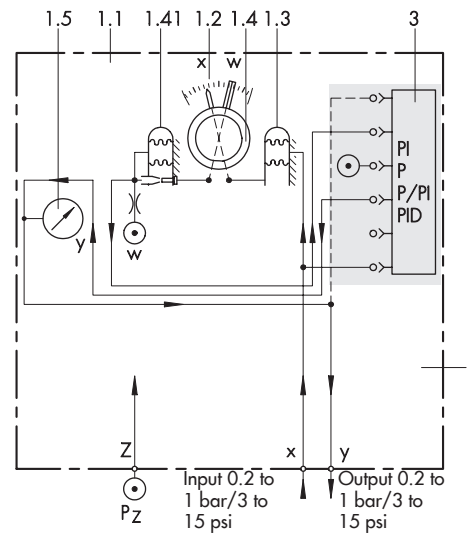
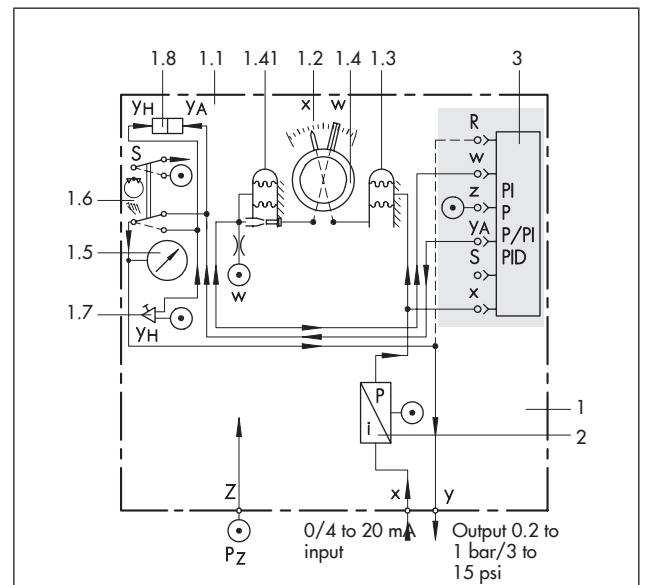
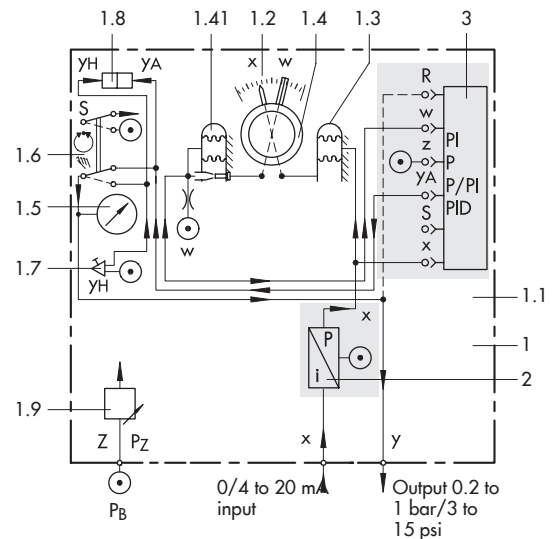

Fig. 4: Schematic drawing of fixed set point controller for pneumatic standardized signals, version with Type 3431-01 Controller Station
Fig. 7: Schematic drawing of fixed set point controller for electric standardized signals, version with Type 3431-02 Controller Station
Fig. 8: Version with supply pressure regulator (1.9)
Principle of operation (see Fig. 4 to Fig. 8)
The controller station shown in Fig. 4 (fixed set point controller with pneumatic input) includes a scale (1.2), controlled variable display (1.3), set point adjuster (1.4) and plug-in connections for a controller module (3). These pneumatic connections are self-sealing when the module is unplugged. The controlled variable signal x produces a deflection on the bellows measuring system of the controlled variable display (1.3) which is transmitted to the pointer over a gear mechanism.
The set point (reference variable w) can be adjusted on a scale (1.2) at the controller front. The position of the set point adjuster is transmitted to the set point calibrator (1.4) over a gear mechanism. This servo system (1.41) converts the adjusted set point into a pneumatic set point signal (w), which is fed to the controller module. The controller module compares the controlled variable signal and the set point signal (x and w) and produces an output signal y_A based on the set point deviation and adjusted control parameters. The output signal is connected to the output signal display (1.5) and output port y . The controller station (Fig. 5, follower controller with pneumatic input) largely corresponds to the one shown in Fig. 4.
The version with i/p converter (Fig. 7) is suitable for connection of 0/4 to 20 mA electric input signals (controlled variable x). The standardized input signal of a transmitter is fed to the i/p converter (2) and converted into a pneumatic standardized signal from 0.2 to 1 bar. The controller stations largely correspond to the versions shown in Fig. 4 to Fig. 6. However, the stations additionally contain an i/p converter (2) whose output signal is applied to the bellows measuring system of the controlled variable display (1.3) and the controller module (3). Follower controllers with electric input $w_{ext} = 0/4$ to 20 mA are equipped with an additional i/p converter.